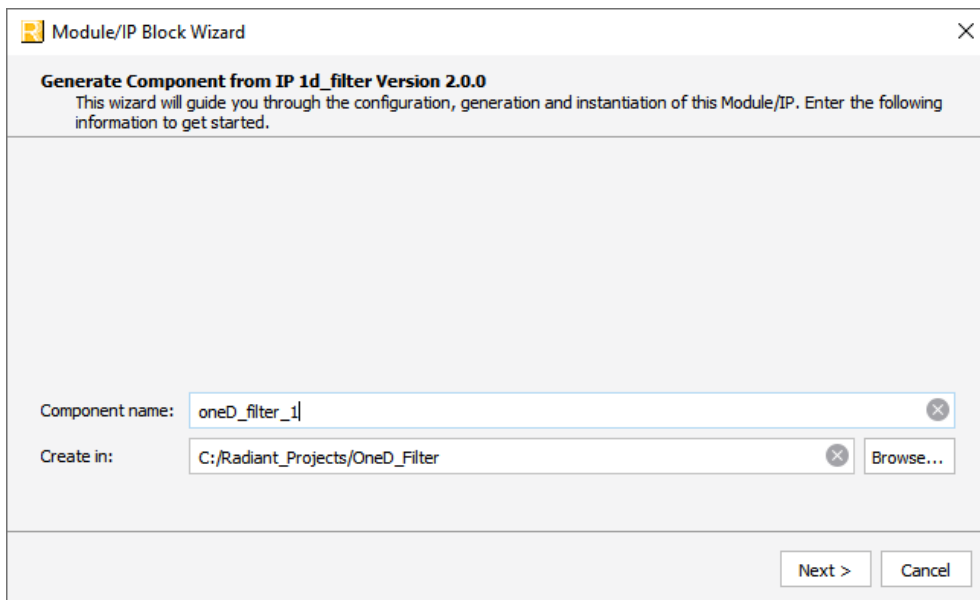
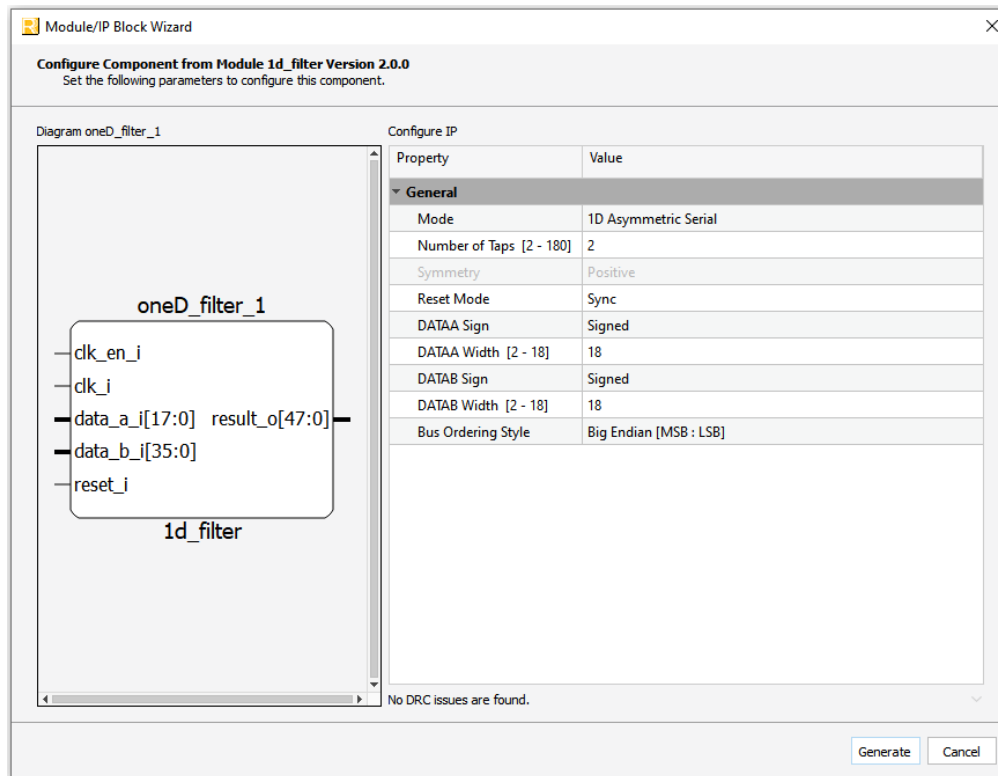
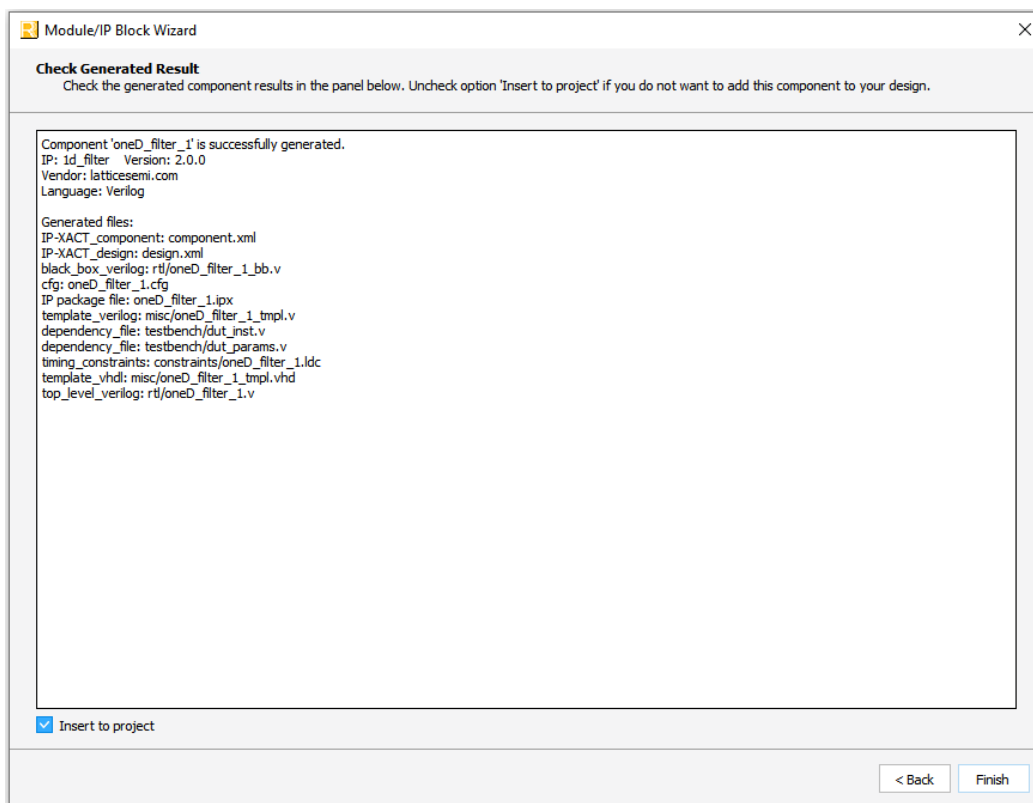
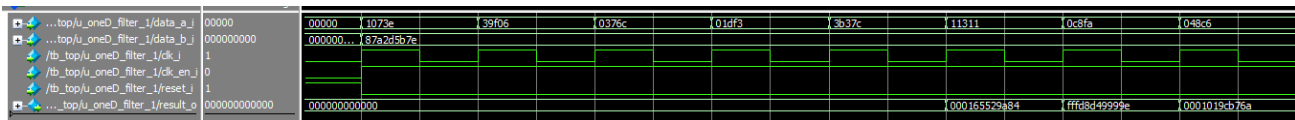

Figure 3.1. Module/IP Block Wizard
Figure 3.2. Configure User Interface of 1D Filter Module
Figure 3.3. Check Generating Result
Figure 3.6. Simulation Waveform
3. The **Module/IP Block Wizard** opens as shown in Figure 3.1. Enter values in the **Component name** and the **Create in** fields and click **Next**.
- In the module dialog box of the **Module/IP Block Wizard** window, customize the selected 1D Filter Module using drop-down menus and check boxes. For a sample configuration, see Figure 3.2. For configuration options, see the Attribute Summary section.
- Click **Generate**. The **Check Generating Result** dialog box opens, showing design block messages and results as shown in Figure 3.3.
- Click **Finish**. All the generated files are placed under the directory paths in the **Create in** and the **Component name** fields shown in Figure 3.1.
Note: It is necessary to follow the procedure above until it is fully automated in the Lattice Radiant software suite. The results of the simulation in our example are provided in Figure 3.6.
IP Generation, Simulation, and Validation	<ul style="list-style-type: none"> Updated the name for section 3 to IP Generation, Simulation, and Validation. Deleted the original section 3.1 Licensing the IP. Updated Figure 3.1. Module/IP Block Wizard, Figure 3.2. Configure User Interface of 1D Filter Module, Figure 3.3. Check Generating Result, and Figure 3.6. Simulation Waveform. Added loop count limit information in the section Generating and Synthesizing the IP. Newly added the section IP Evaluation.